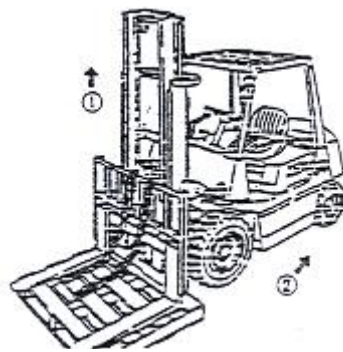

Figure 2-37
- (1) Fork a pallet and park the car on a level ground.
- (2) Drop the fork and pallet to the ground.
- (3) Remove the upper end connector of the chain and remove the chain from the sprocket
- (4) Lift the inner mast (① in Figure 2-37).